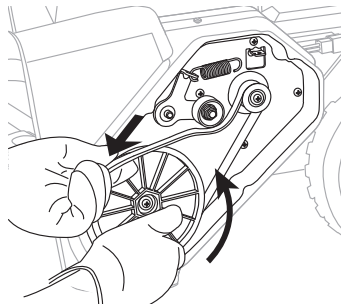

Fig. 3
4. Remove the drive belt by slowly turning the auger pulley counterclockwise while pulling the belt outwards (Fig. 3).